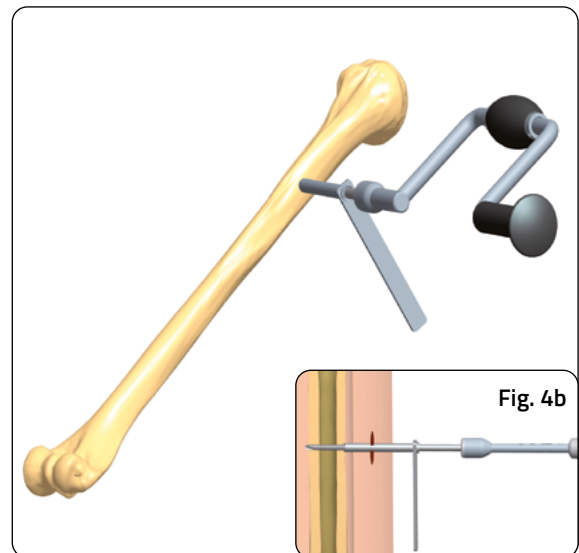

Fig. 4a
4) Insert a screw through the screw guide into the bone using the Hand Drill (**Fig. 4a**). While drilling, the Hand Drill should be held steady so that the drilling direction is maintained throughout the procedure. Once the second cortex has been reached, reduce the drilling speed; four more turns are needed so that the tip just protrudes through the distal cortex. Diaphyseal bone screws should always be inserted across the diameter of the bone to avoid off axis placement. Off axis location of screws may result in screw threads lying entirely within the cortex and not traversing the medullary canal; this may weaken the bone. In all cases the surgeon should be mindful of the amount of torque required to insert the screw. In general, it is safer to drill a hole with a 4.8mm drill bit prior to insertion of these screws in diaphyseal bone (**Fig. 4b**).